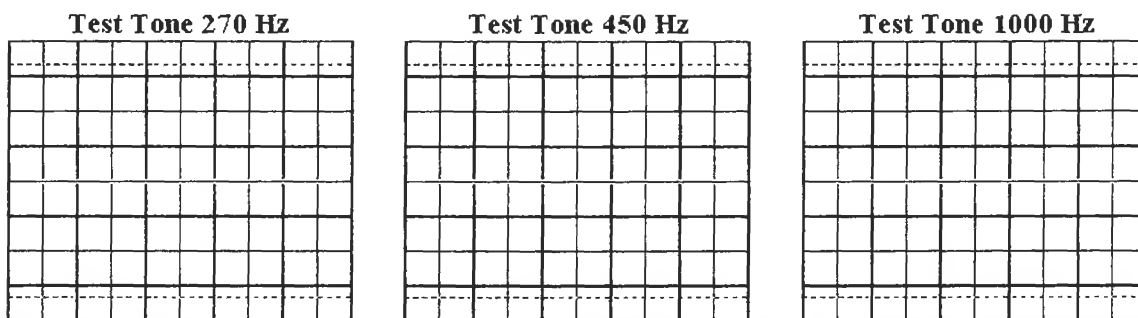

Figure L49-16
6. There are three test tones on the CD. Draw each tone at full volume or 250 mV (whichever is less) on the scope faces provided in Figure L49-16.